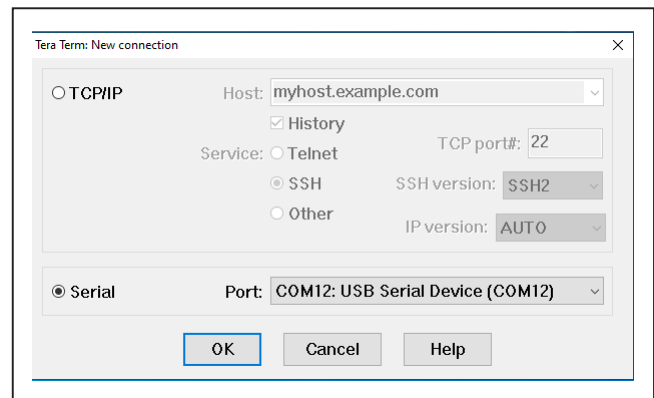

Figure 2. Serial Connection.
- 2) Open the Tera Term and select the **Serial Port** as shown in Figure 2.